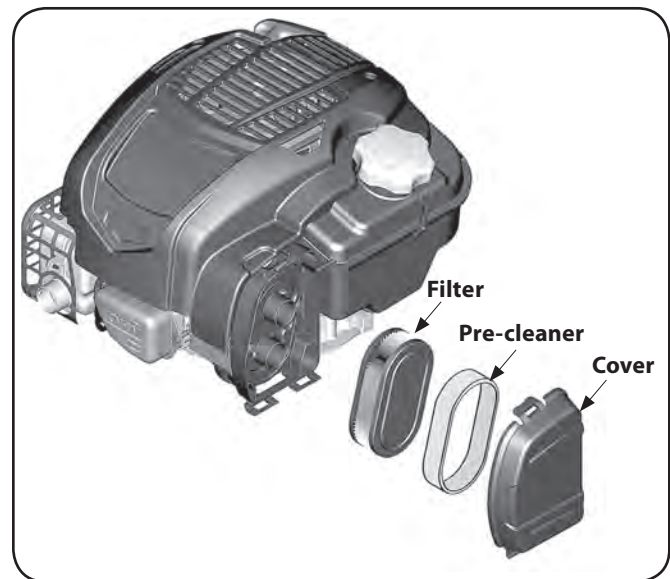

Figure 6-3
1. Open the cover and remove the filter. See Figure 6-3.